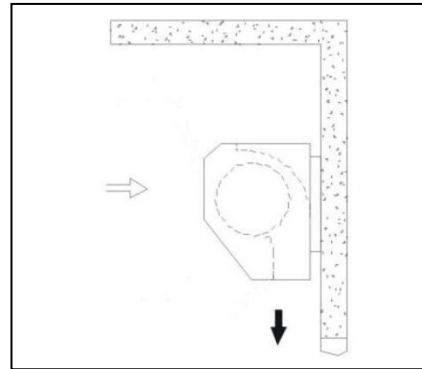

Fig 1
- at least 3.5' clearance (air gap) above the air curtain, see Fig 1